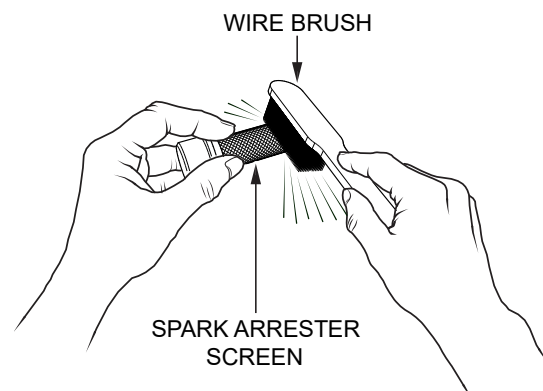

Figure 52. Spark Arrester Cleaning
3. Carefully remove carbon deposits from the spark arrester screen with a wire brush (Figure 52). If the spark arrester is damaged (has breaks or holes), replace it with a new one.